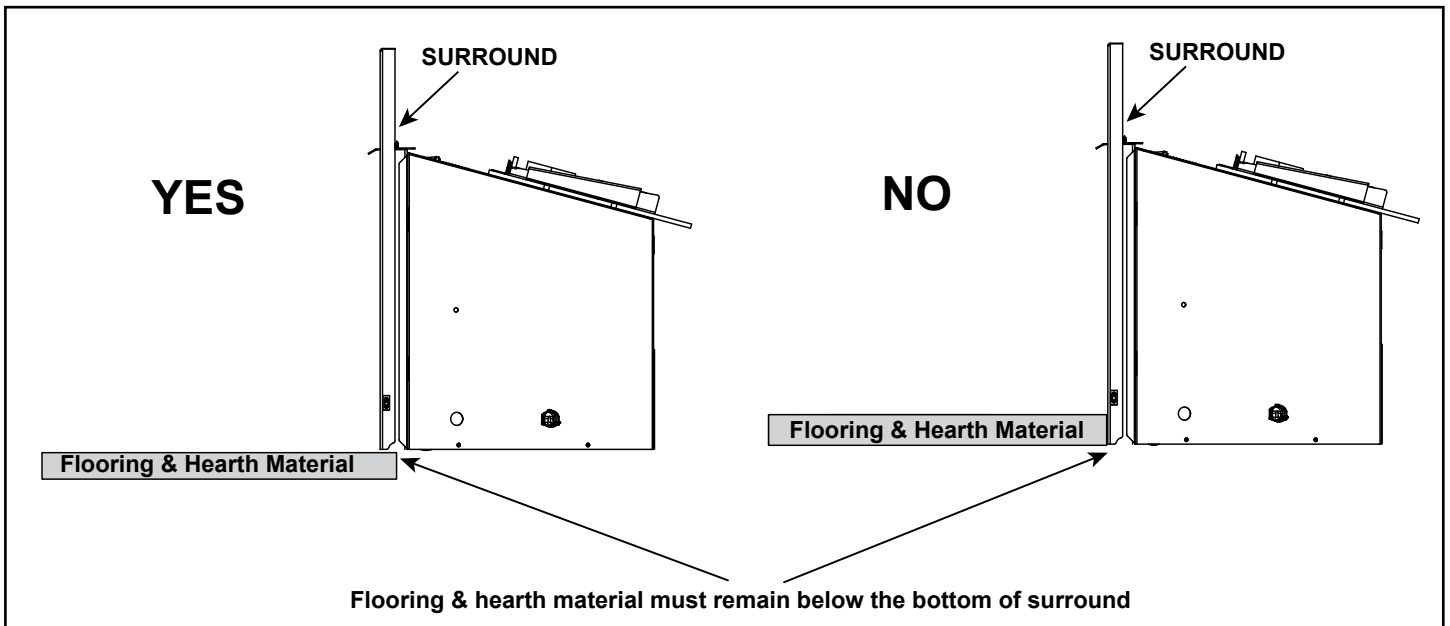

Figure 8.8 Flooring & Hearth Material
- All flooring and hearth material must remain below the bottom of the surround. See Figure 8.8.